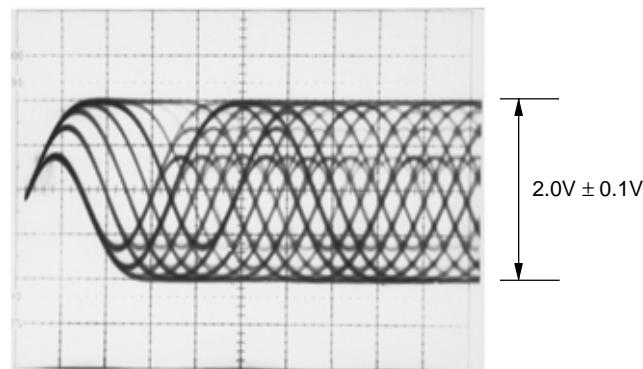

Fig. 23
• Measurement instrument connections	Oscilloscope CH1 to CN204, Pin-5 (FCSIN) via 100k½ resistor Oscilloscope CH2 to CN204, Pin-6 (FCSER) (SERVO UCOM BOARD assy) See Fig.23 below.